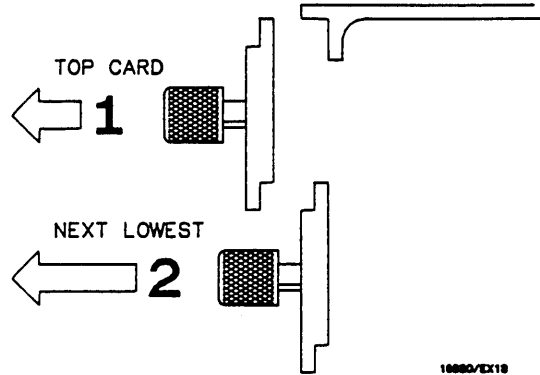

Figure 2-10. Endplate Overlap
- c. Starting **from the top**, begin pulling card(s) and filler panel(s) out **half way**. See figure 2-10.